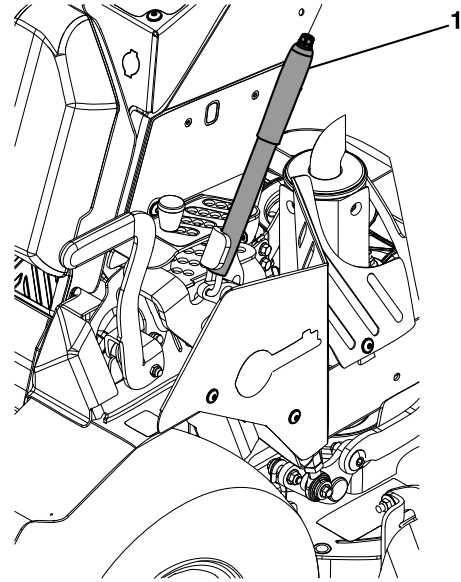

Figure 13
3. Raise and lock the deck to the 4.5 inch (11.43 cm) transport position (Figure 13).